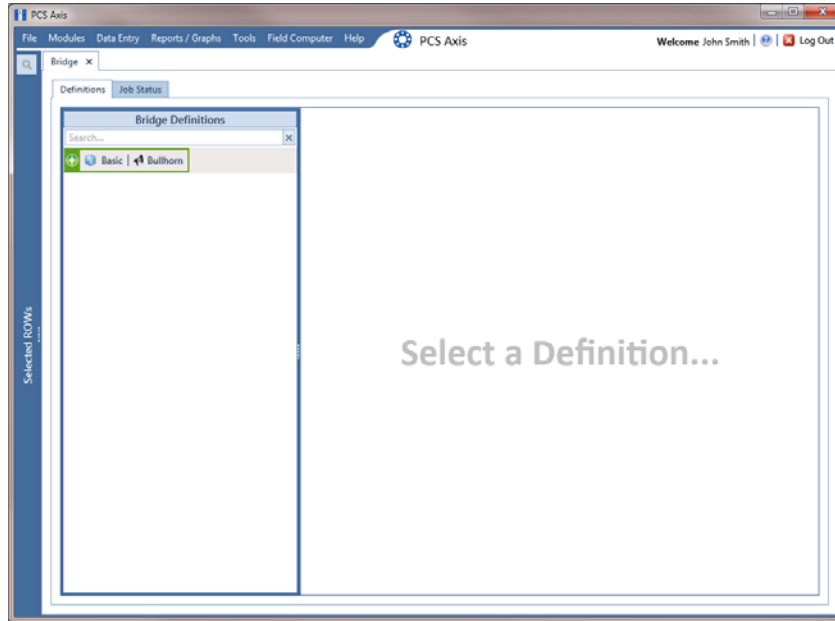

Figure 10-26. Bridge
- 2 Click **Tools** > **Bridge** to open the *Bridge* window (Figure 10-26, page 476)